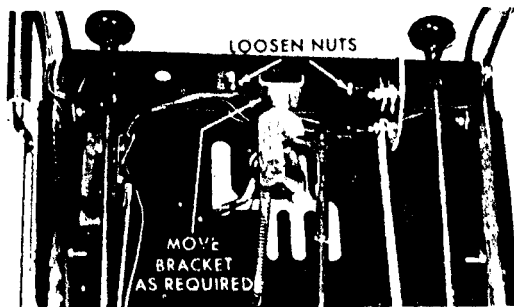

Figure 27
- If ground speed in first gear is too slow or too fast, or if it is difficult to get shift lever into third gear slot, the following adjustment may be necessary: Loosen the two nuts shown in Figure 27. Move the bracket to the right to reduce speed in first gear; to the left to increase speed in first gear.